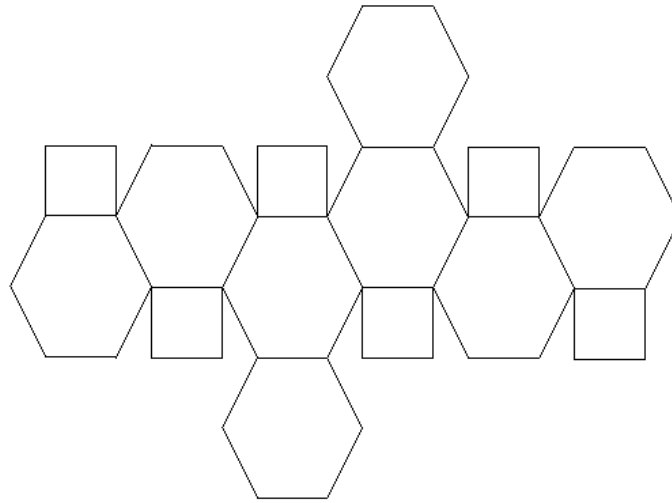

Figure 9.7
2. You can see from the original solid, final assembly, and net, that the cutting off process results in a semi-regular solid with eight hexagon faces and six square faces. Putting a tetrahedron on any of these truncated faces will not re-create the original octahedron shape. Think for a moment--what shape will you need to complete the six cut-off corners of your truncated octahedron? Follow the net provided (**Figure 9.7**) or use the directions in **Chapter 3** to create all the hexagons and **Chapter 4** to create all the squares to produce a small version.